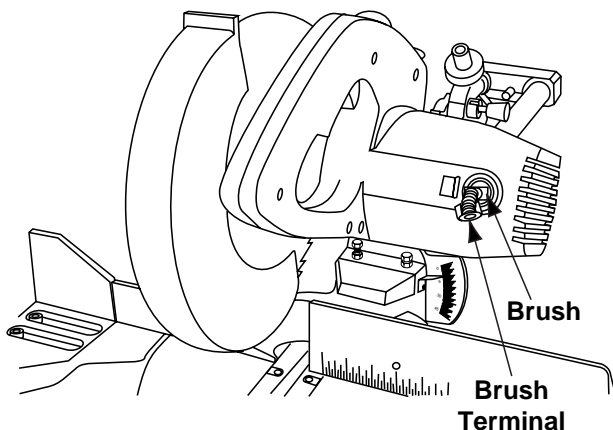

Figure 38. Motor Brush
3. Pull out the brush (Figure 38). Repeat for the opposite side.